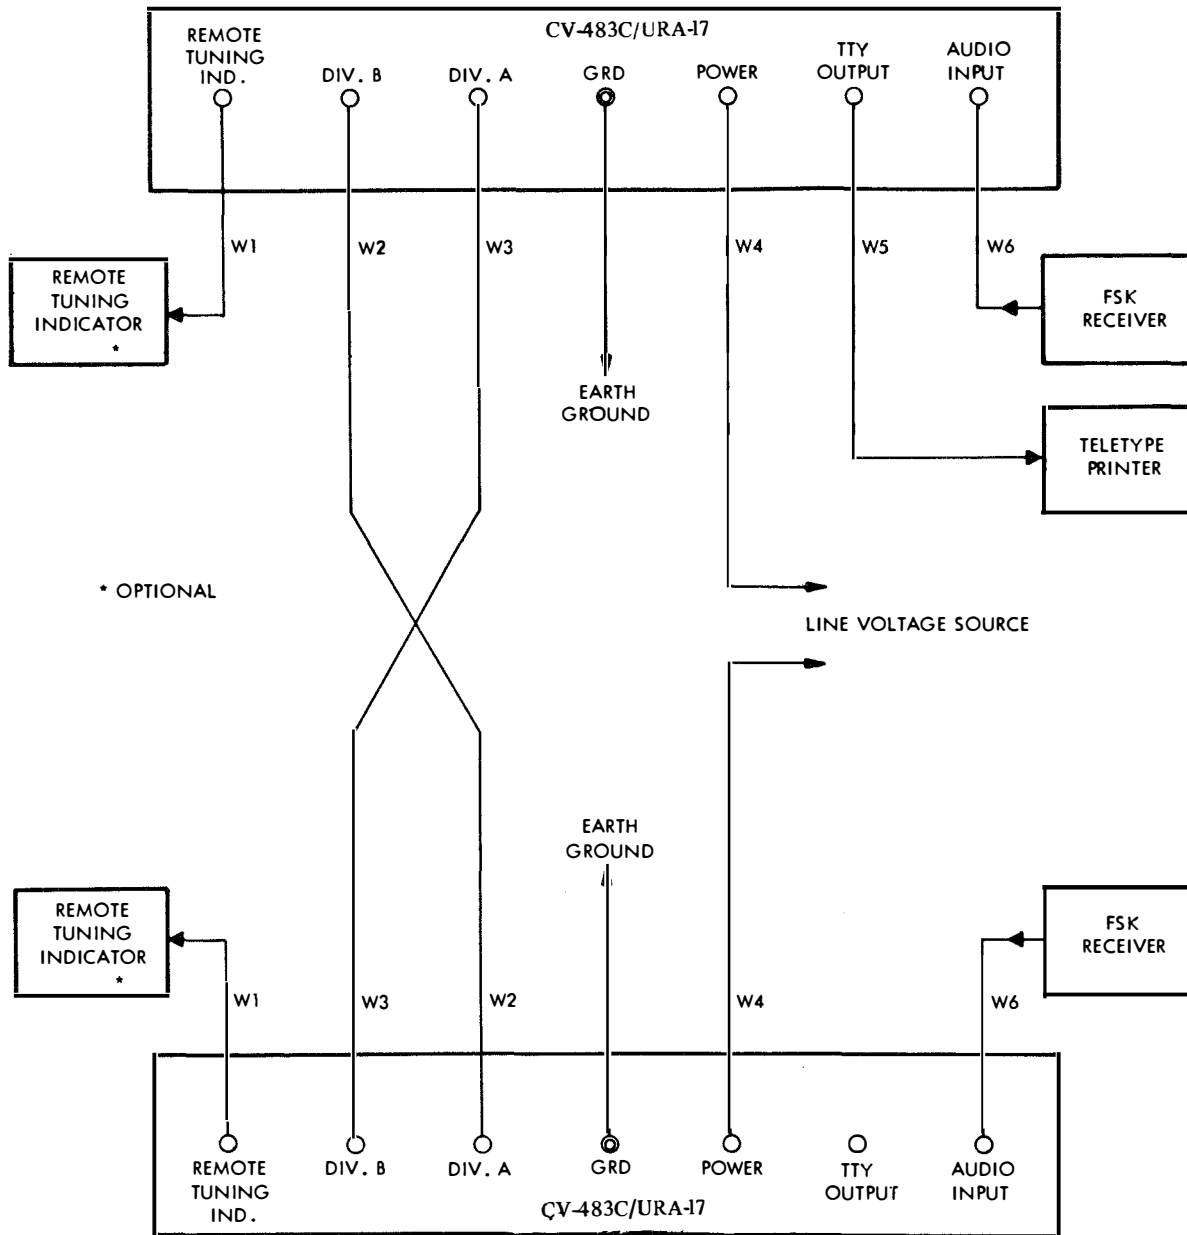

Figure 2-5. Comparator-Converter Group AN/URA-17C,
(2) **INTERCONNECTING CABLES FOR DIVERSITY OPERATION.** - Table 2-2 lists the required cable and connector information for diversity operation of the AN/URA-17C. Figure 2-5 illustrates the interconnection to associated equipment.
* Use in conjunction with figure 2-5.